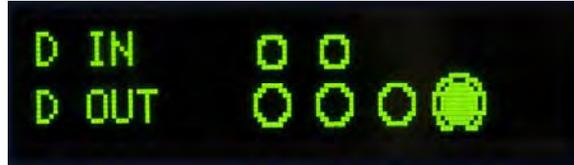

Figure 4-6: Discrete I/O Test Screen, One Output Active
3. Focus for control of a specific output is indicated by a large circle around the outside of the smaller circle. When an output is in focus, pressing the TARE key turns the output ON. The smaller circle becomes solid to indicate that output is ON . This is shown in Figure 4-6.